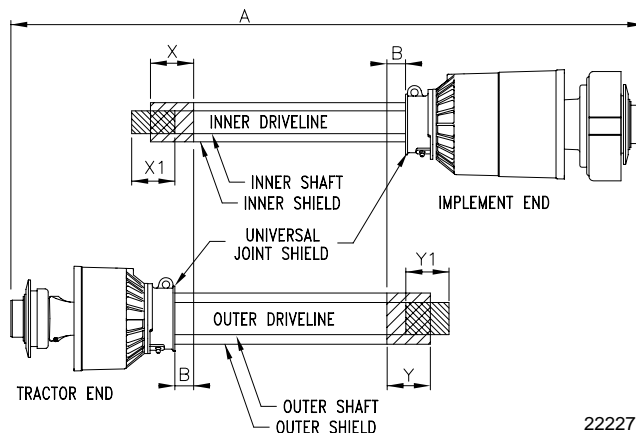

Figure 2-3
Refer to Figure 2-3 on page 14:
Refer to Figure 2-3:
- c. Pull driveline apart into two sections as shown in Figure 2-3. Attach outer driveline universal joint to tractor PTO shaft. Attach inner driveline universal joint to gearbox shaft. Pull on each driveline section to be sure universal joints are secured to the shafts.